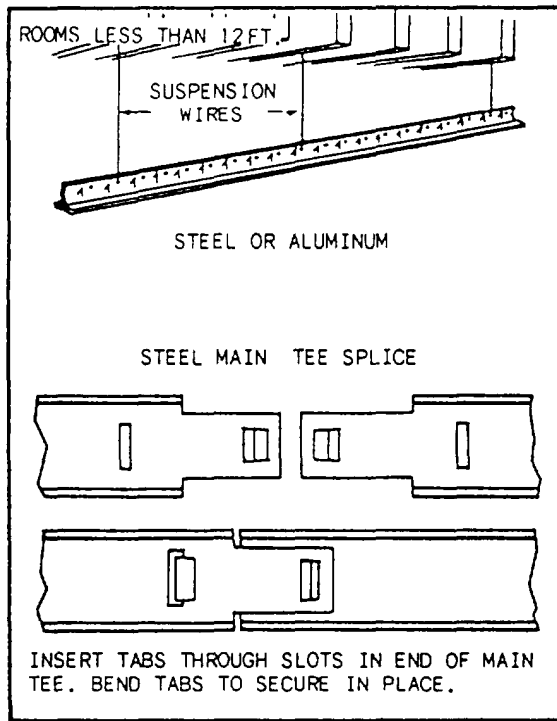

Figure 5-22.—Main tee suspension and steel splice.
**MAIN TEES.**— Install main tees of 12 feet or less by resting the ends on opposite wall angles and inserting the suspension wires (top view of fig. 5-22). Hang one wire near the middle of the main tee, level and adjust the wire length, then secure all wires by making the necessary turns in the wire.
For main tees over 12 feet, cut them so the cross tees do not intersect the main tee at a splice joint. Begin the installation by resting the cut end on the wall angle and attaching the suspension wire closest to the opposite end. Attach the remaining suspension wires, making sure the main tee is level before securing. The remaining tees are installed by making the necessary splices (steel splices are shown in fig. 5-22 and those for aluminum in 5-23) and resting the end on the opposite wall angle. After the main tees are installed, leveled, and secured, install the cross tees.